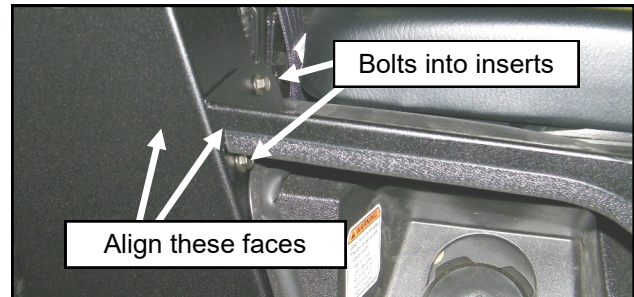

Fig. 15.1 Fuel filler cover
**15.1** Per figure 15.1, place the fuel filler cover panel onto the right side B-pillar and insert (2) 1/4-20 bolts into the threaded inserts. Align the outer flange of the fuel filler cover to the side of the B-pillar and tighten the bolts.